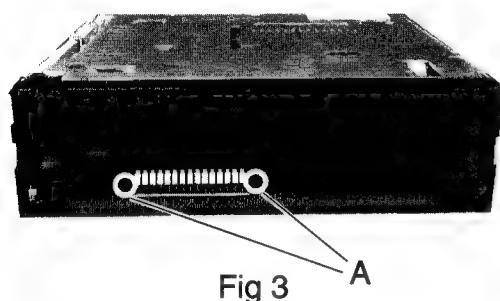

Fig 3
2. Remove the two screws **A** securing the front chassis assembly.(See fig 3)